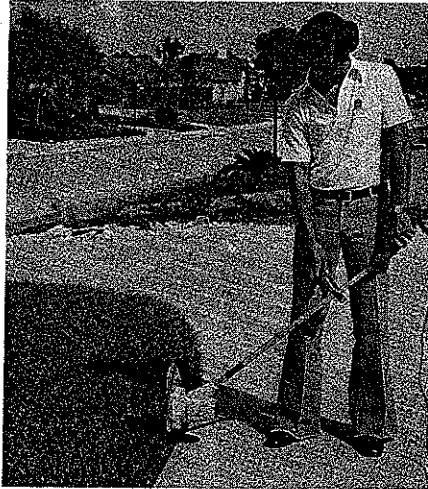
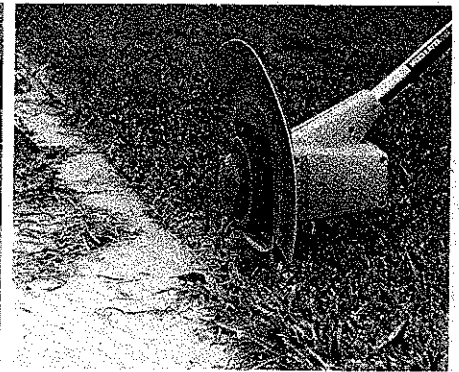

FIGURE 17
FIGURE 18
8. **EDGING:** By adjusting the assist handle to the position shown in Figure 17 your Needle will produce the results illustrated in Figure 18.